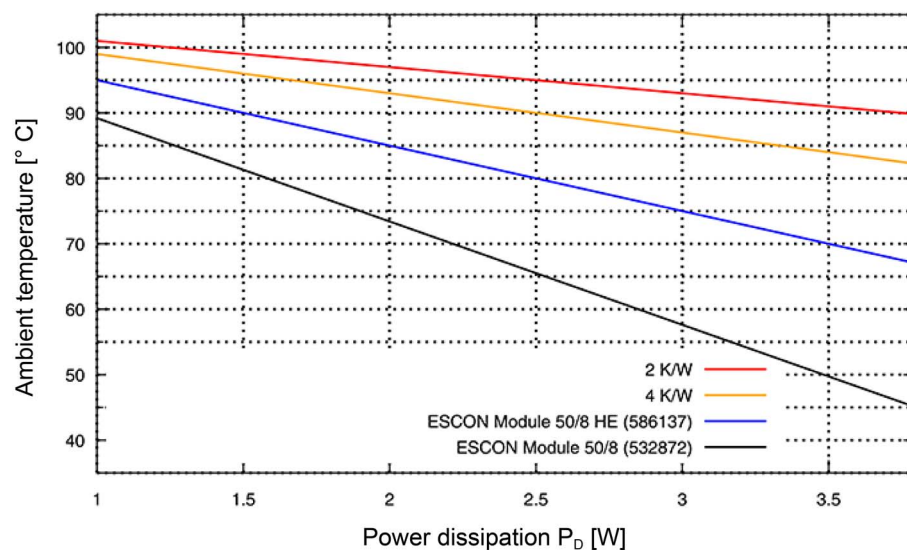

Figure 2-2 Derating Ambient Temperature / required Heat Sink
Extended range ^{*1)}	6'000...10'000 m MSL Derating: Ambient temperature (→ Figure 2-2) less 11 °C
3) → **Figure 2-2**